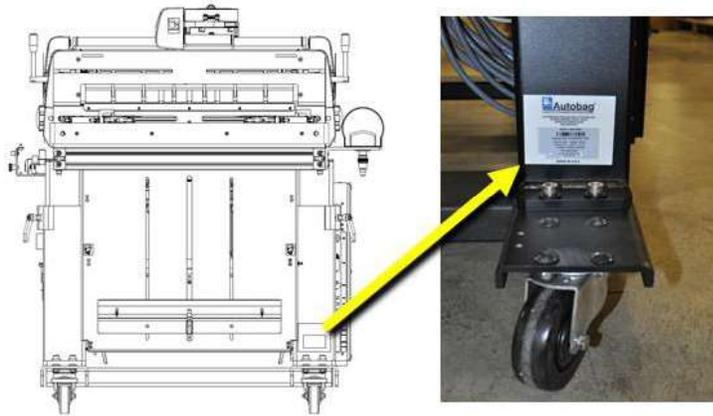

FIGURE 5-1. SERIAL NUMBER TAG
3. Have the machine serial number available. The Autobag Serial Number tag can be found on the right front leg of the bagger support frame. Refer to Figure 5-1.